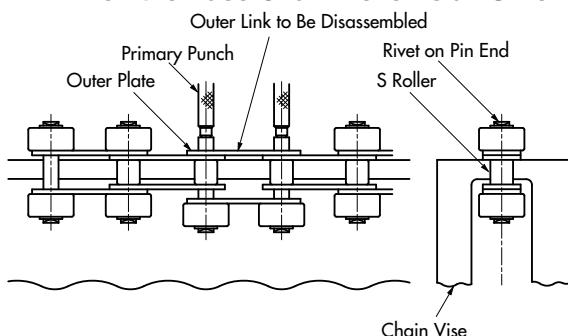

Figure 12: Setting S Roller Chain
- 2) Set the chain on a chain vise (sold separately) as shown in Figure 12 and shear off the rivets on the pin ends (two rivets on one side) using a hand grinder. Take care that the grinder does not overheat.
- 3) Remove the two pins using a pin with a diameter slightly smaller than the pin diameter of the chain (using a Tsubaki Primary Punch or its equivalent). When the pins are pulled out a little, the two outboard rollers on the upper side can be removed. (Figure 12 shows the outboard rollers being removed.)